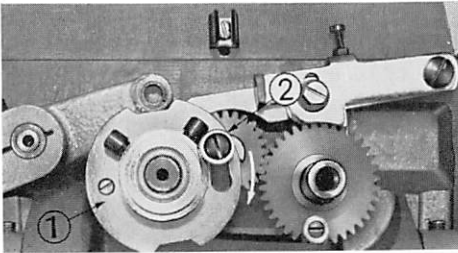
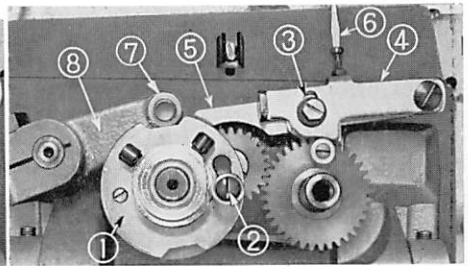

Fig. 19
Fig. 20
(i) *8-stitch selecting* (Fig. 19, 20)
The Figure 20 shows the 8-stitch selecting.
This 8-stitch selecting can be arranged by pulling the stop motion cam knob ② toward the operator (Fig. 19) and if this is moved to the position shown by the direction of the arrow, and set at the position shown by ② Fig. 20, the stop motion cam ① will stop half revolution and becomes an 8-stitch selection.
With the 8-stitch selected position, move the stop motion cam knob ②. The stop motion cam ①, at the position shown in Fig. 19, will rotate one complete revolution at one sewing cycle and becomes a 16-stitch selecting.
(iii) *32-stitch selecting* (Fig. 20)
With the 16-stitch selected position, loosen screw ③, push down the stitch selecting lever ⑤ with your hand and tighten screw ③. When the stitch selecting lever roll ⑦ has gone up as shown in the Fig. 20, it will push up the lever and with this action it will hold up the stop motion tripping lever ⑧. Thus, the cam will revolve once more (2 rotations) and becomes a 32-stitch selecting.